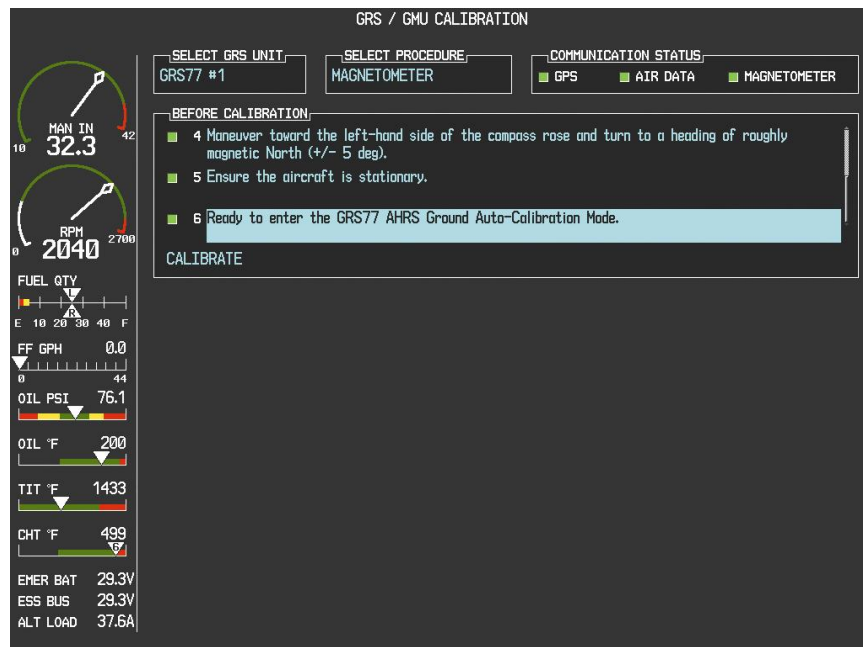

Figure 7-10. Magnetometer Calibration
- a. Enter configuration mode and go to GRS/GMU CALIBRATION page as shown in Figure 7-10.